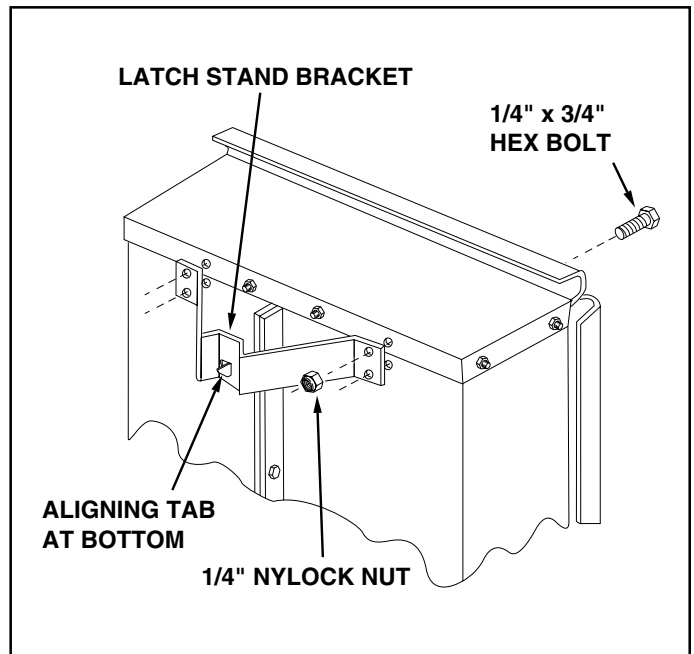

FIGURE 6
12. Turn the latch stand bracket so that the aligning tab is at the rear (bottom) of the bracket. Assemble the latch stand bracket to the cart using four 1/4" x 3/4" hex bolts and 1/4" nylock nuts. **TIGHTEN**. See figure 6.